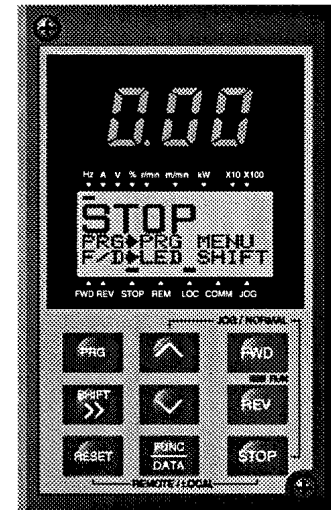

Fig. 3-1-2 Display on keypad panel at power-on
- ② Check for short-circuits and ground faults between the terminals and live sections.
- ③ Check for loose terminals, connectors, or screws.
- ④ Check that the motor is separated from mechanical equipment.
- ⑤ Turn off switches before turning power to ensure that the inverter will not start or operate abnormally at power-on.
- ⑥ Check the following after power-on:
- a. Check that no alarm message is displayed on the keypad panel (see Figure 3-1-2).